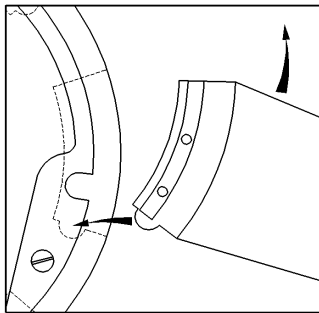

Figure 4
2. Position the blade as shown in Figure 4. The blade will only fit one way round. Insert the protrusion at the trailing edge of the blade root fixing first into socket to align with the corresponding recess in the blade socket. The blade can easily be inserted with a lever action. Gentle assistance with a soft faced mallet may be required.